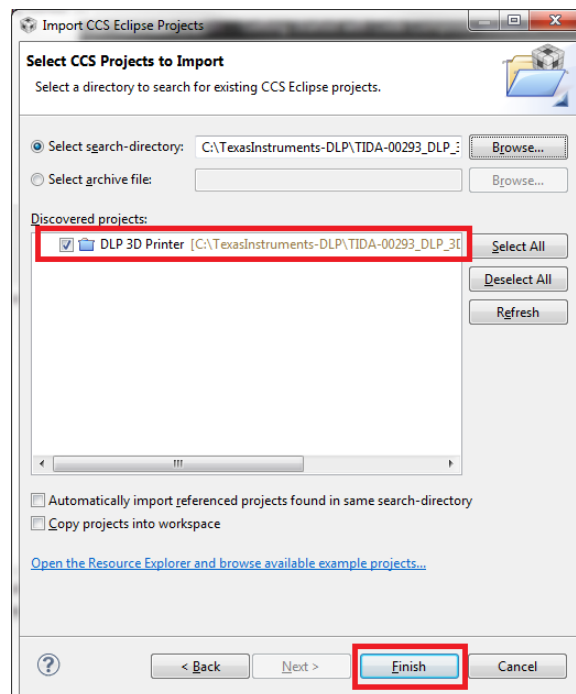

Figure 3-5. DLP 3D Printer Project Importation And Discovery
8. After the project appears in the Discovered projects section, click the **Finish** button, as shown in Figure 3-5.